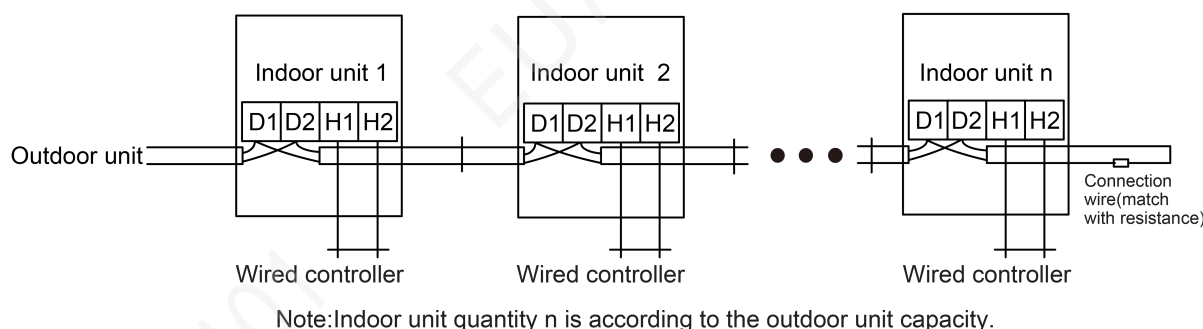

Fig 5.5
- (4) Secure the communication line with the wire clamp on the electric box.
- (5) In order to ensure the reliability of communication between IDU and ODU and the communication among each IDU, add a matched resistance(supplied in a package before ex-factory) on the wiring board of the last indoor unit in a series connection. The matched resistance should be connected in parallel between terminal screw D1 and D2, as shown in Fig 5.5.